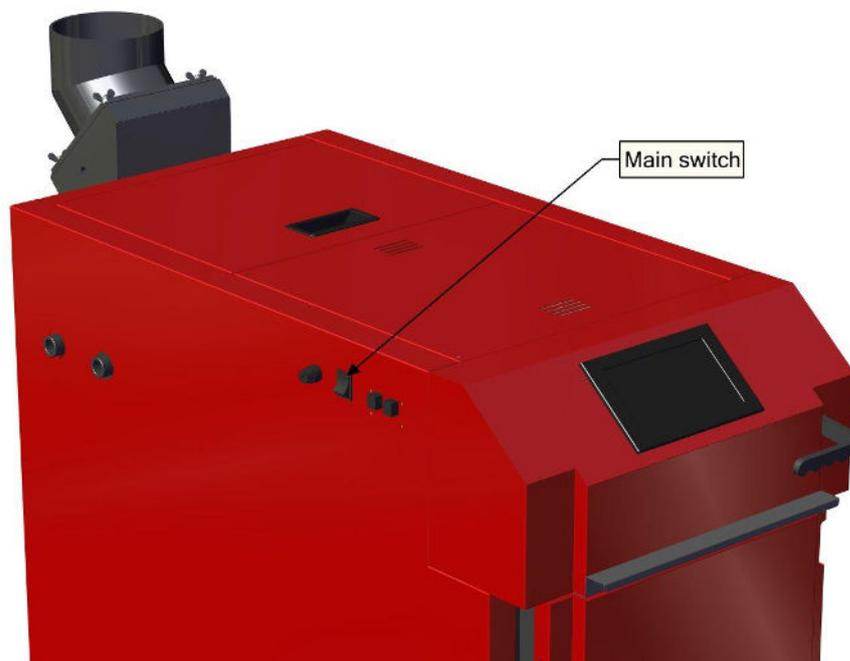

Figure 37. Main switch
- Press the automation button (**Figure 37**). On the display, you can now read that the ignition process is in progress, which may last up to 30 minutes. At this time, the fan is working at maximum power. If the ignition is not successful, the boiler would shut down.